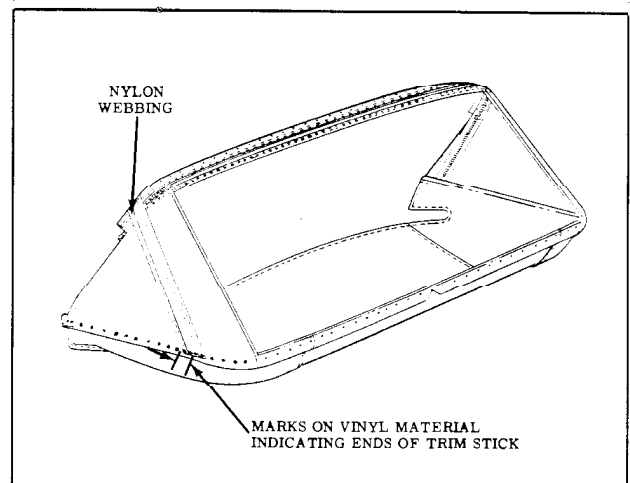

Fig. 17-25 Marking Back Curtain
10. Using a pencil, mark both ends of rear and rear quarter trim sticks on vinyl surface of top material. (Fig. 17-25) Reference marks for trim sticks should be transferred to new top material when Step 31 of installation procedure is performed.
15. Using chalk, mark ends of rear and rear quarter trim sticks on vinyl surface of back curtain material. (Fig. 17-25) Reference marks for trim sticks should be transferred to new back curtain material when Step 8 of installation procedure is performed.
16. Remove right and left nylon webbing from rear trim stick. (Fig. 17-25)